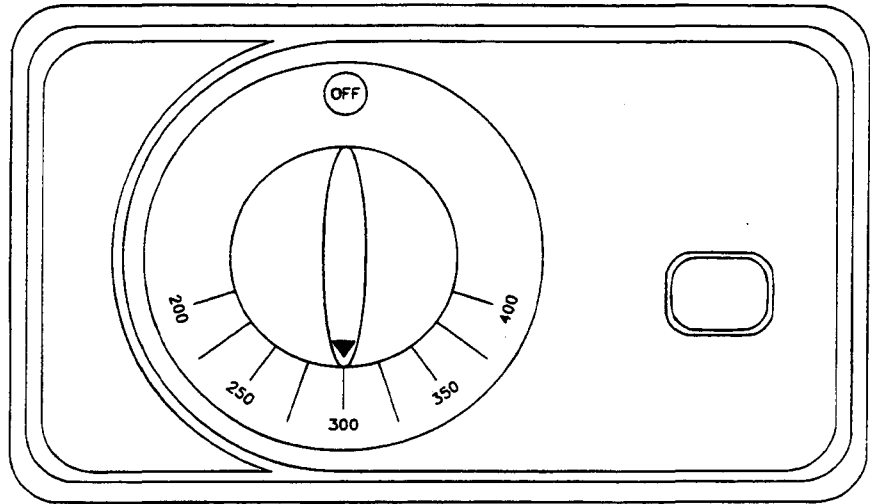

Figure 5
1. Turn thermostats to the 300°F marking. See Figure 5.